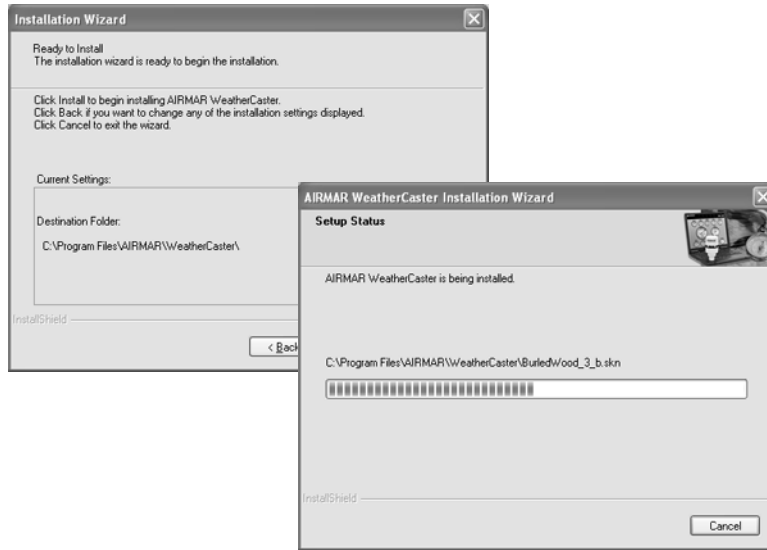

Figure 22. Ready to Install and Setup Status windows
7. The Ready to Install window will appear (see Figure 22). Click Install. The Setup Status window will appear while WeatherCaster is being installed.